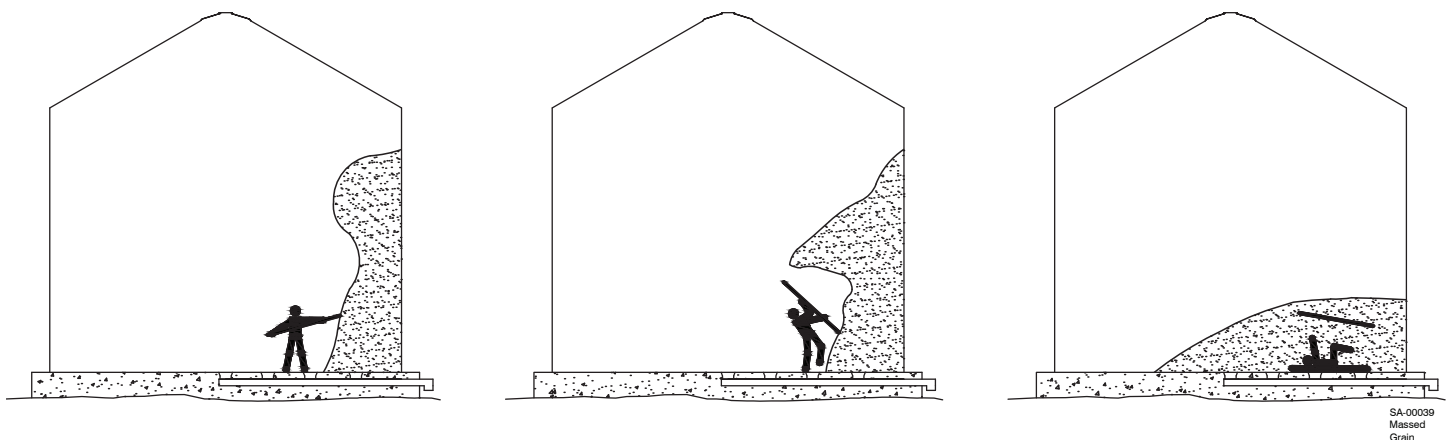

Figure 4. Dangers of grain massed on a sidewall.
2.7.3. Grain can also form in a large mass against wall, see Figure 4, when it has been stored improperly or in poor condition. The mass of grain can cause engulfment or crushing hazards to workers who attempt to break it loose with shovels or other objects.